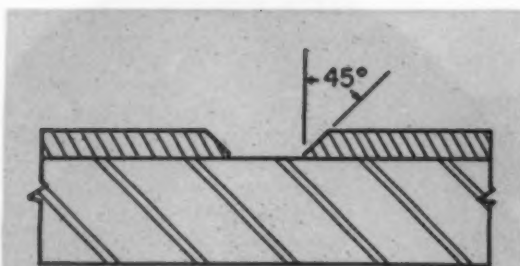

Fig. 4 — Bevel preparation for liners over  $\frac{1}{8}$ -in.
**Plug Welding:** In plug welding, the lining is attached by welding each liner panel to the backing steel through holes punched or drilled through the liner panel material, Fig. 3. Ordinarily, in vessel fabrication, the size of the liner panel varies from 2 to 3 ft wide to 5 to 10 ft long. Holes are  $\frac{1}{2}$  to 1 in. diameter. Diameters of less than  $\frac{1}{2}$ -in. can cause welding difficulties by shorting out the welding arc, resulting in excessive porosity or slag entrapment and in poor bonding. Where the liner panel thickness exceeds  $\frac{1}{8}$ -in., the edges of the holes are occasionally beveled, Fig. 4.